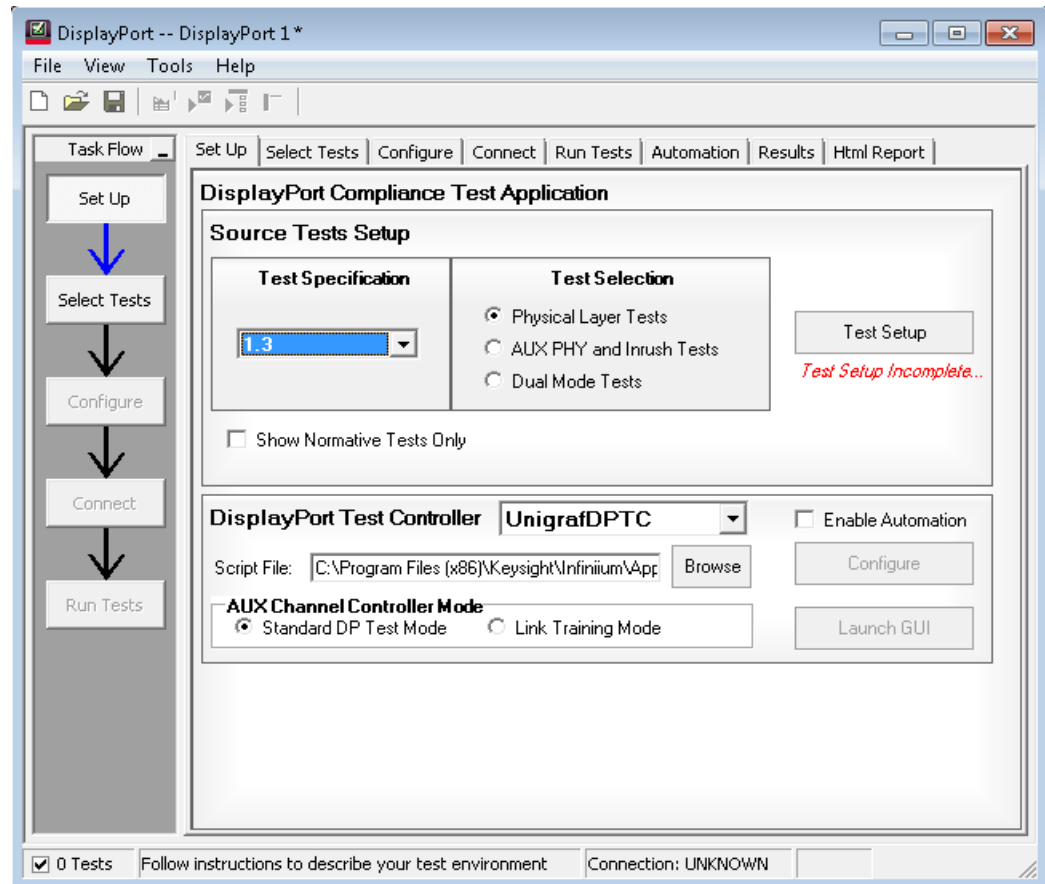

Figure 72 Set Up tab on the DisplayPort Compliance Test App
- 3 On the DisplayPort Compliance Test Application, click the **Set Up** tab (see Figure 72).